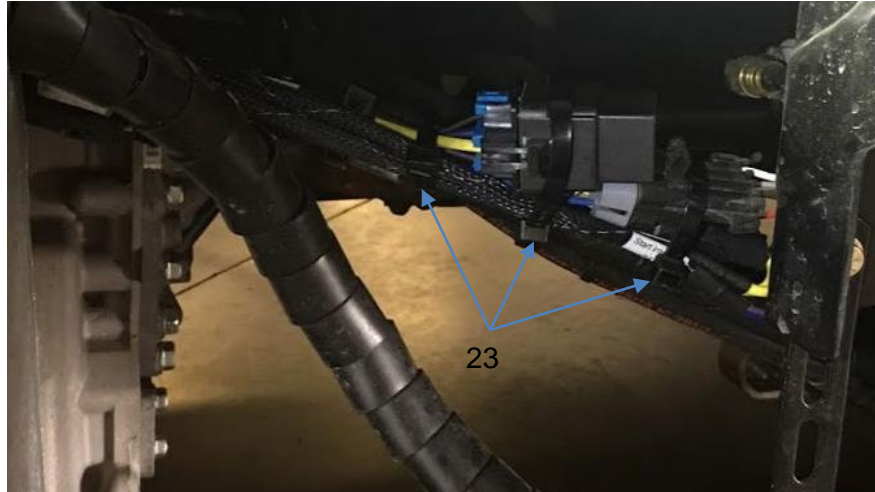

Figure 12.
17. Route and secure relay harness to OEM harness using zip ties. *Figure 12. Refer also to "ENP-524: Natural Gas Fuel System Routing, Clipping and Installation Guide."*